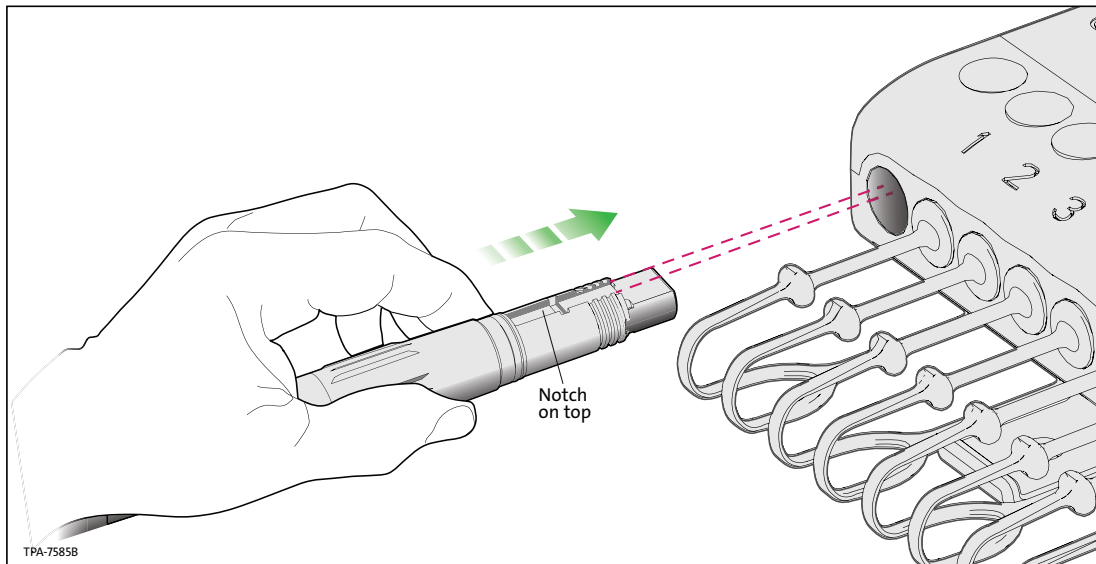

Figure 5
Step 5: Align the notch on top of the connector with the port button on the terminal. (Figure 5)